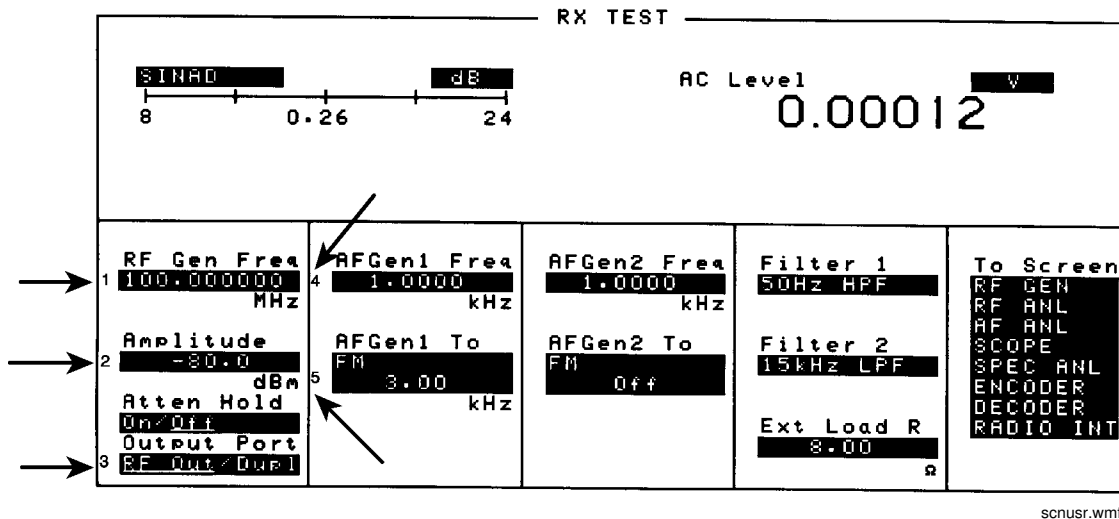

Figure 9 An Example of Pre-Assigned Local User Keys
1. Press and release the SHIFT key, then the k4 key to access the ASSIGN function; then press the ENTER key. The numbers 1 through 5 appear in front of various fields. (See figure 9.)